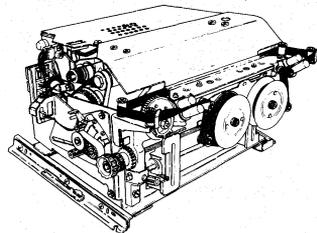

Fig. 1—DATASPEED 40 Printers
1.01 This section provides installation for the DATASPEED 40 printer, friction and tractor feed, 80- and 132-column (Fig. 1).